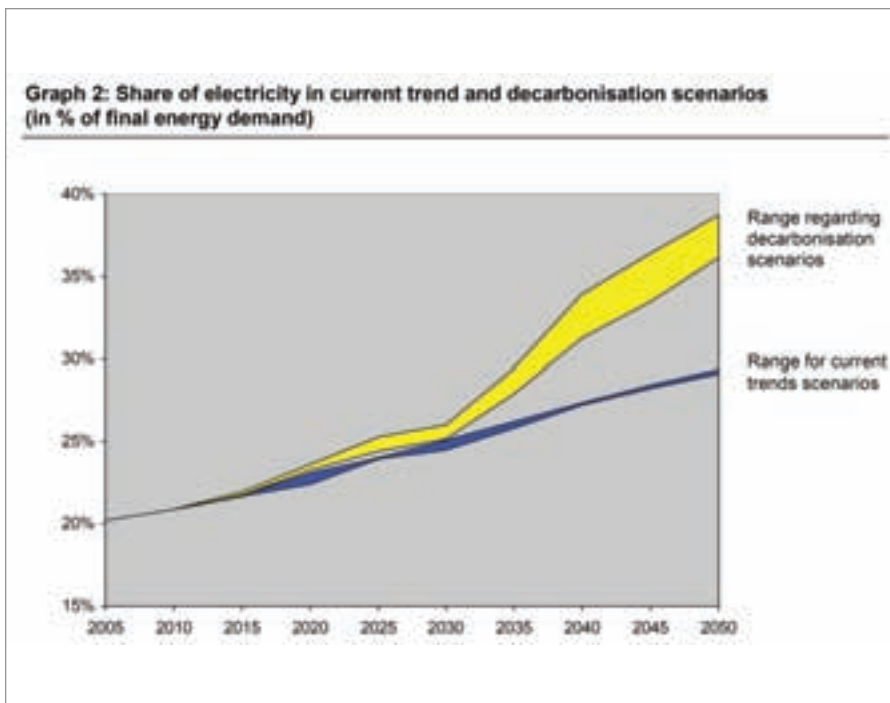

Figure 1: Share of electricity in final energy demand, according to the EU Energy Road Map 2050
Electrification clearly facilitates our progress toward a resource-efficient and climate-friendly energy system. The share of electricity in total energy demand is projected to increase drastically in all the decarbonisation scenarios of the recent European Union (EU) Energy Road Map 2050¹ (Figure 1).